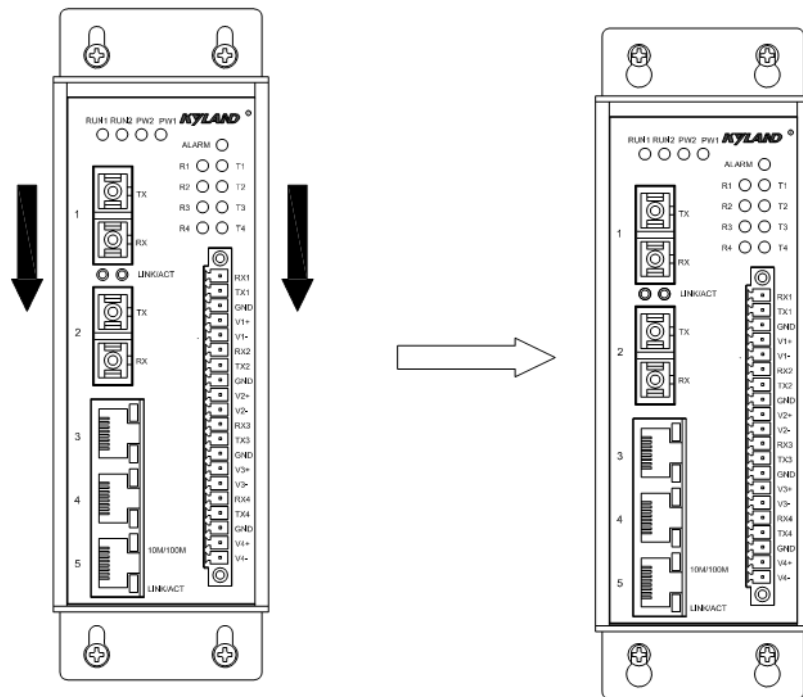

Figure .4-5 Schematics of Wall-mounting Installation Process
4. After fixing the screw to the wall, install the SICOM3005 to selected position to enable 4 screws to pass through 4  $\Phi 6.5$  holes of the wall-mounted plate. Slip down the SICOM3005. It is shown as Figure 4-5. Screw tightly 4 screws. The SICOM3005 is fixedly installed to the wall or the inner wall of case.